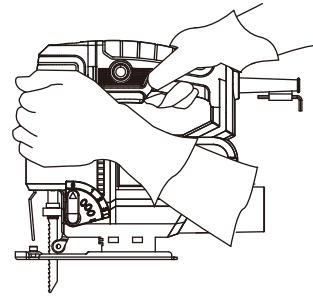

Fig. 13
- > Hold the product with one hand on the handle (4), and with the other hand on the gripping surface (19). Never try to operate the product with only one hand! Keep your hands away from under the workpiece (Fig. 13).
- > Place the base plate (11) flat on the workpiece and push the product forward at an even speed.